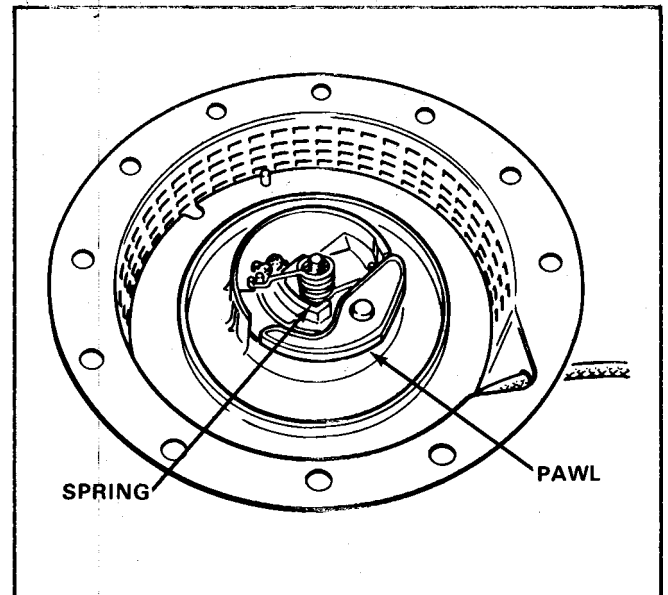

Figure 43
4. Carefully lift off the friction plate. Note how the spring is mounted on the center post and engages the starter pawl. See Figure 43.
8. Install the spring and friction disc. Make sure the spring engages the starter **pawl**. Refer to Figure 43.